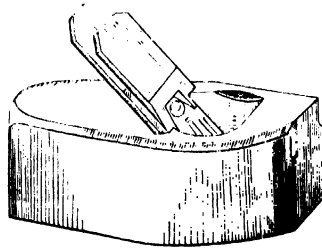

Fig. 36.
**Smoothing Plane.**—The general shape of this plane is shown in Fig. 36. Being only about 8" long it is useful for planing short surfaces,